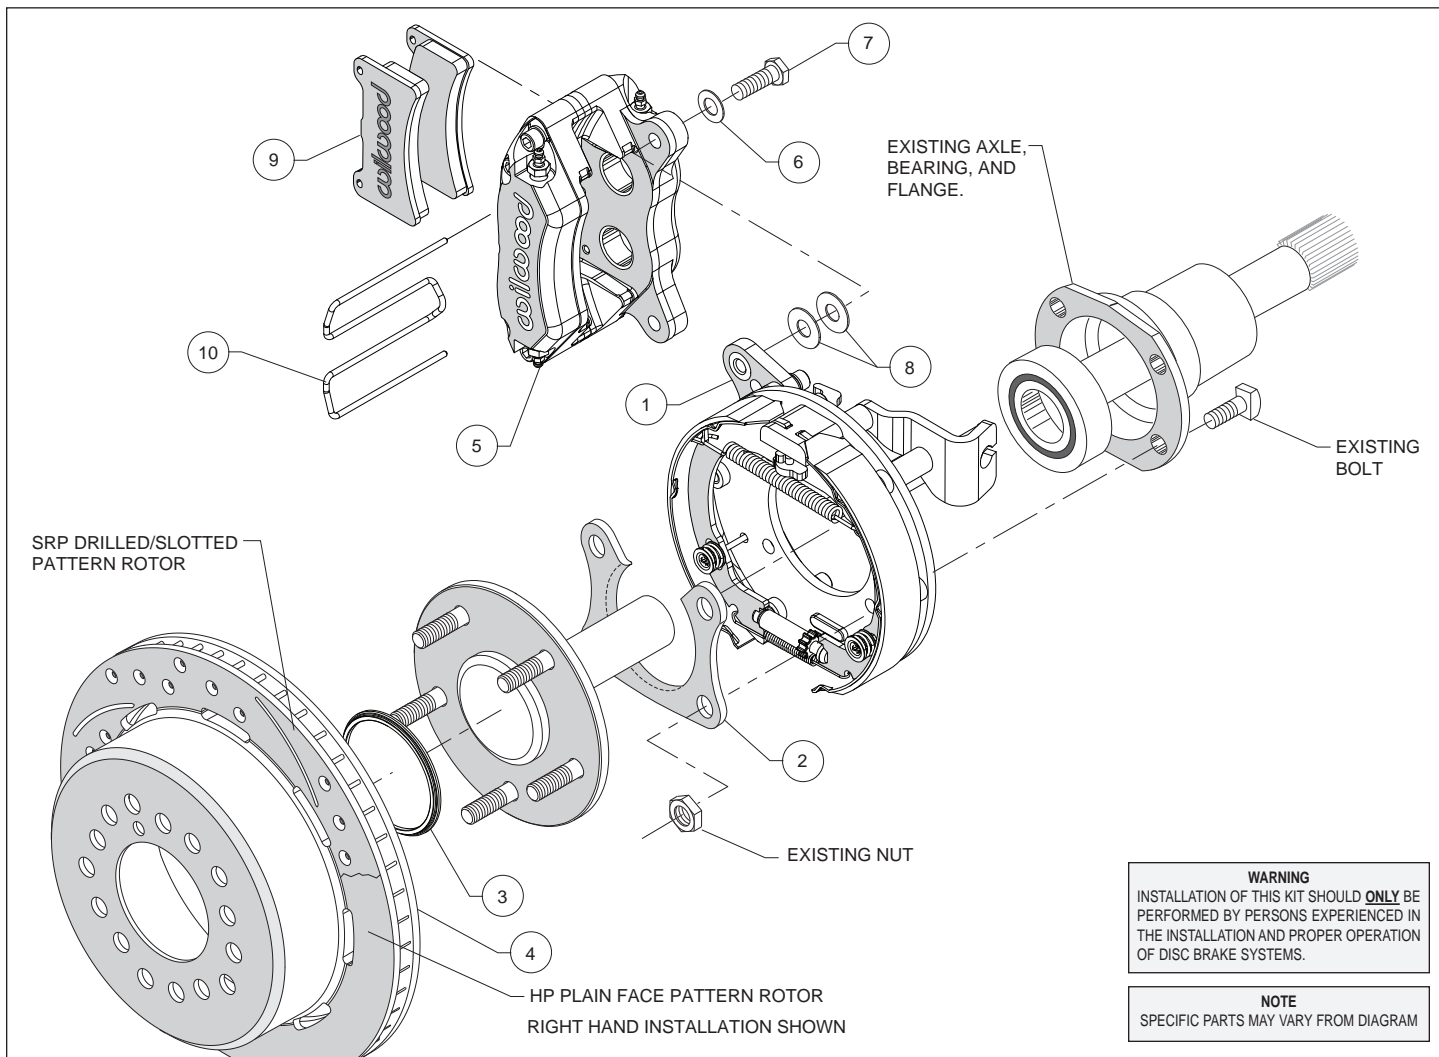
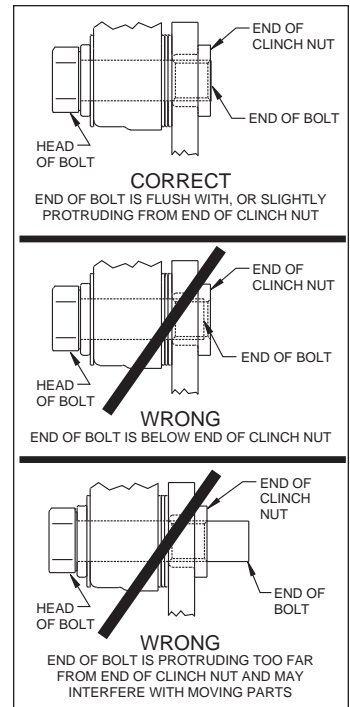

Figure 1. Typical Installation Configuration
Figure 5. Clinch Nut Engagement Diagram
Assembly Instructions (numbers in parenthesis refer to the parts list, and Figure 1 on the preceding pages): **CAUTION:** All mounting bolts must fully engage clinch nuts. Be sure to check that all bolts are either flush or protruding through flanged side of clinch nut after shimming, Figure 5.
- Orient the bracket assembly (1) as shown in Figure 1 and Photo 1 and slide it onto the axle. Insert the axle and bracket into the axle housing. Ensure that the bracket assembly backing plate fits flush against the axle housing flange.
- Install the bearing retainer (2) with the opening pointing upward and the lip facing inward (toward the bearing), as shown in Figures 1 and 4, and Photo 2. Secure retainer and bracket assembly to the axle housing flange using the Original Equipment Manufacturer (OEM) bolts and nuts, Figure 1. Apply red *Loctite*® 271 to the OEM bolt threads and torque to OEM specifications.
•Slide the rotor registration adapter (3) onto the axle register on the axle flange with the smaller O.D. facing toward the rotor/hat (4), Photo 3. Align the correct hole pattern in the rotor/hat with the stud pattern on the axle flange and slide into place, Figure 1 and Photo 4. **NOTE:** The rotor/hat must fit flush against the axle flange or excessive rotor run out may result. Install three lug nuts (finger tight) to keep the rotor/hat assembly in place while continuing with the installation. **NOTE:** Some OEM and after market axles come with stud sizes larger than 0.50" diameter. Verify stud size and have a qualified machine shop drill the bolt circle of the hat/rotor to the correct stud size, if necessary.
•**NOTE:** Please reference the caution statement at the beginning of the assembly instructions. Mount the caliper (5) onto the caliper mounting bracket (1) using bolts (7) and washers (6), as shown in Figure 1. Initially place two .035" thick shims (8) on each bolt between the caliper and the bracket, Photo 5. **NOTE:** For forward mounted calipers only, the cable bracket must be temporarily removed to allow access to the upper caliper mount bolt. Remove the two flathead bolts holding the cable bracket to the parking brake backing plate, Photo 6. **DO NOT mix the bolts or spacers.** They must be reinstalled in the same locations as they were removed.
•Temporarily tighten the caliper mounting bolts and view the rotor (4) through the top opening of the caliper. The rotor should be centered in the caliper, Photo 7. If not, adjust by adding or subtracting shims between the bracket and the caliper. Always use the same amount of shims on each of the two mounting bolts. **NOTE:** The end of each bolt must be flush with or slightly protruding from the head of the clinch nut, as shown in Figure 5. If necessary place spare shims between washer (6) and caliper mounting ear to achieve the proper clinch nut engagement. Once the caliper alignment and clinch nut engagement are correct, remove the bolts one at a time, apply red *Loctite*® 271 to bolt threads, and torque to 40 ft-lb.